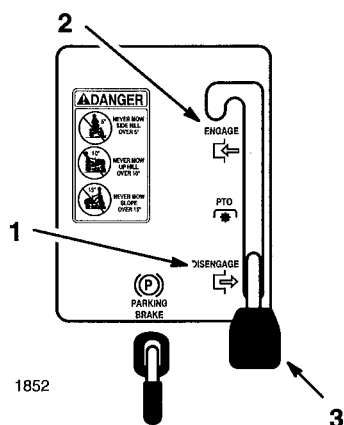

Figure 6
2. Move the blade control (PTO) to “ENGAGED” (Fig. 6).
2. Move the blade control (PTO) to “DISENGAGED” (Fig. 6).